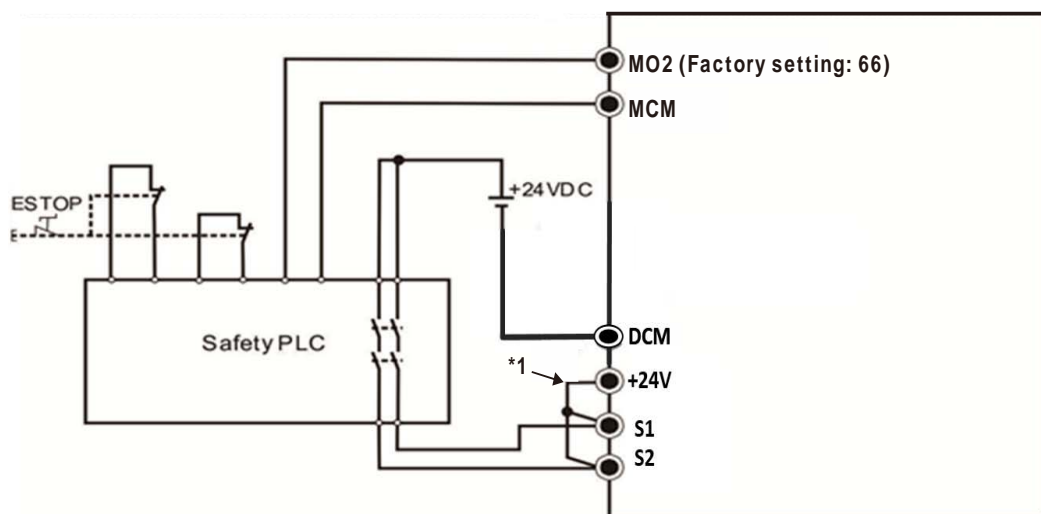

Figure 3
2. The wiring as shown in Figure 3 below. Normally, the switch ESTOP contact must be closed, thereby the drive can output without error displayed.